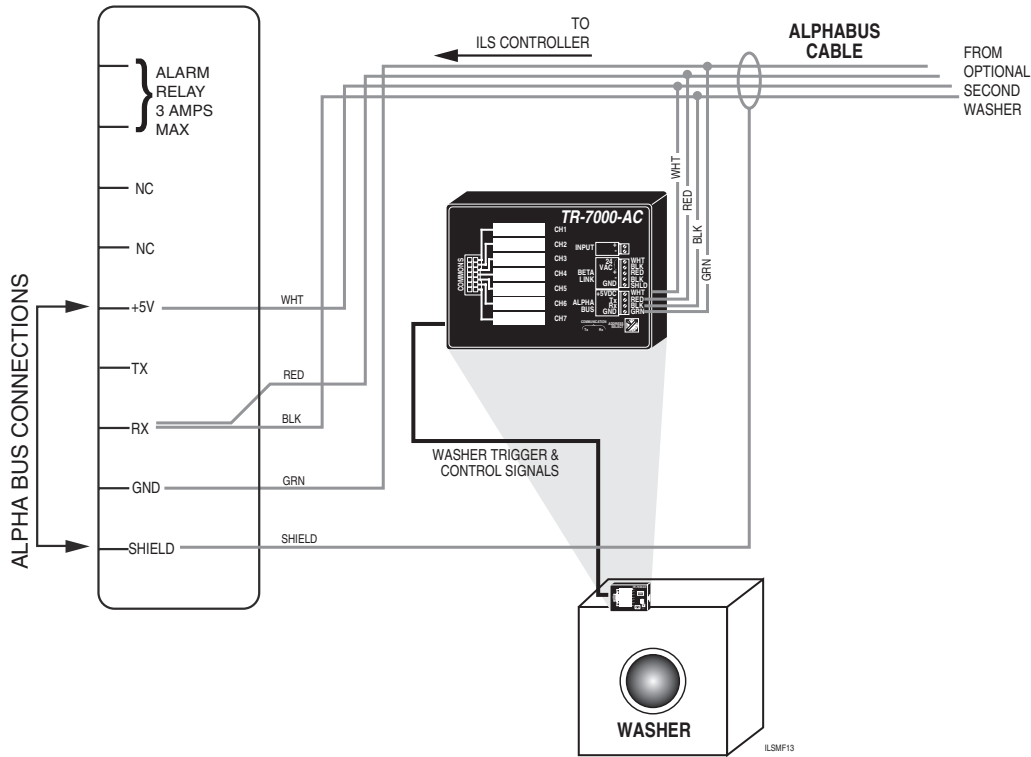

Figure 14. AlphaBus Connections for One TR-7000-AC Trigger Module
- Make the AlphaBus connections at each washer with the 4-position Phoenix type connector with 18-gauge stranded wire. Refer to Figure 14 and Figure 15.